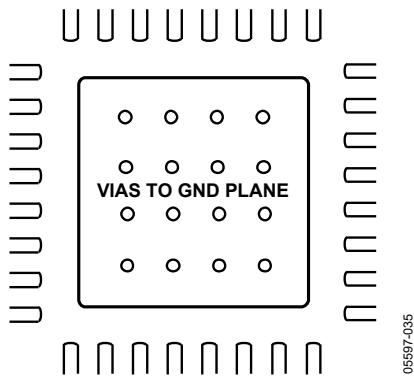

Figure 33. PCB Land for Attaching Exposed Paddle
**The exposed paddle of the AD9515 package must be soldered down.** The AD9515 must dissipate heat through its exposed paddle. The PCB acts as a heat sink for the AD9515. The PCB attachment must provide a good thermal path to a larger heat dissipation area, such as a ground plane on the PCB. This requires a grid of vias from the top layer down to the ground plane (see Figure 33). The AD9515 evaluation board (AD9515/PCB) provides a good example of how the part should be attached to the PCB.